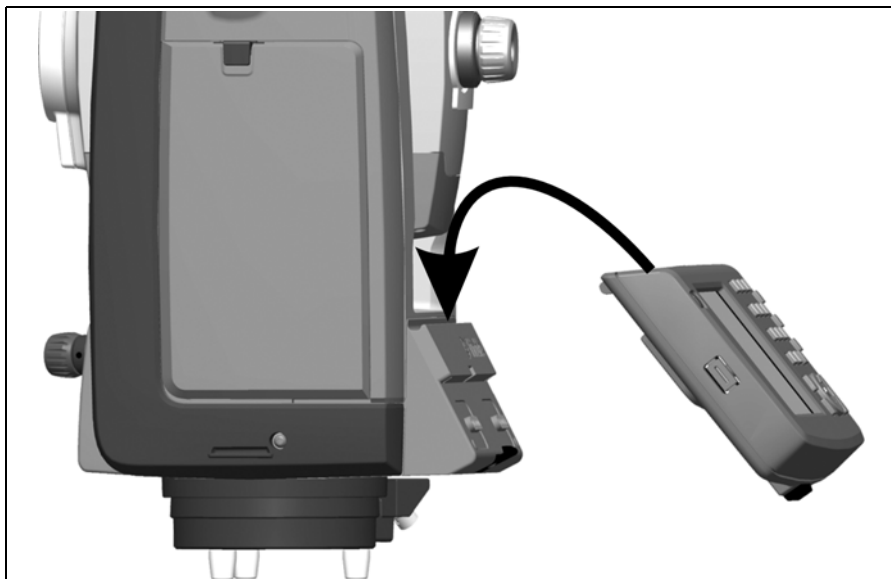

Figure 4.42 Attaching the Trimble CU to the instrument
1. Hook the top of the Trimble CU over the top edge of the panel attachment, Figure 4.42